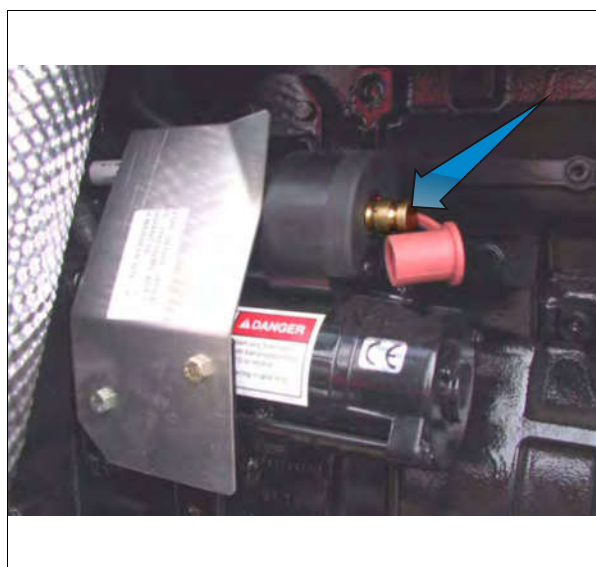

Fig. 15.
1. Connect the positive end (+) of the booster battery to the terminal on the starter (fig. 15).